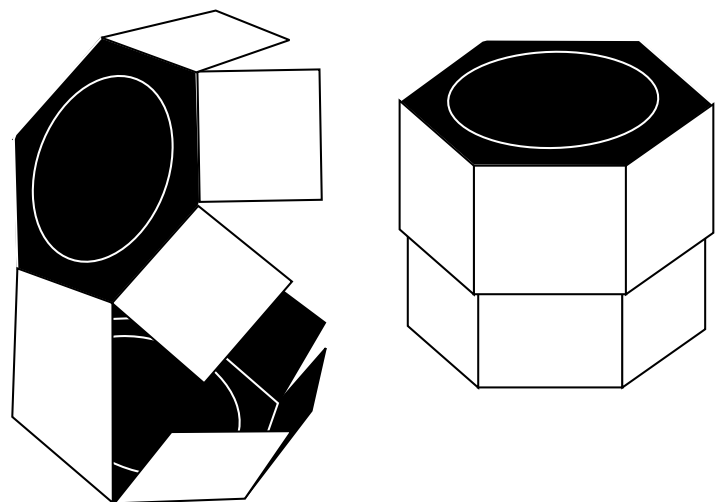

Fig. 5
**Step 11** Remove the two round cutouts from the internal reinforcement 1 [C3, sheet 5] of the main tube and fold all the tabs forwards. Glue the five completely black tabs with their backs onto the grey glue surfaces of the other five tabs so that a small hexagonal block is created (see Fig. 5). Its inner surface and the two hexagons on the outside are black. Then do the same with internal reinforcement 2 [C4, sheet 5] of the main tube. Allow to dry thoroughly.